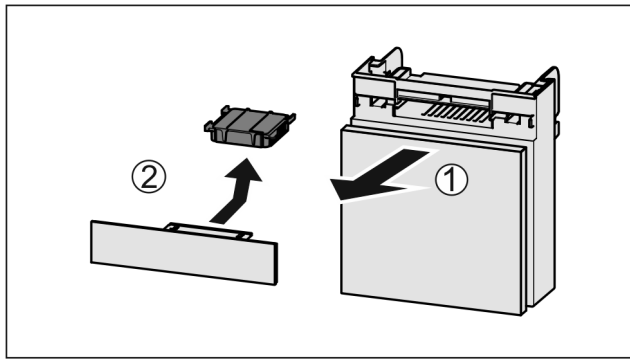

Fig. 148
- Pull out the compartment Fig. 148 (1).
- Remove the carbon filter Fig. 148 (2).